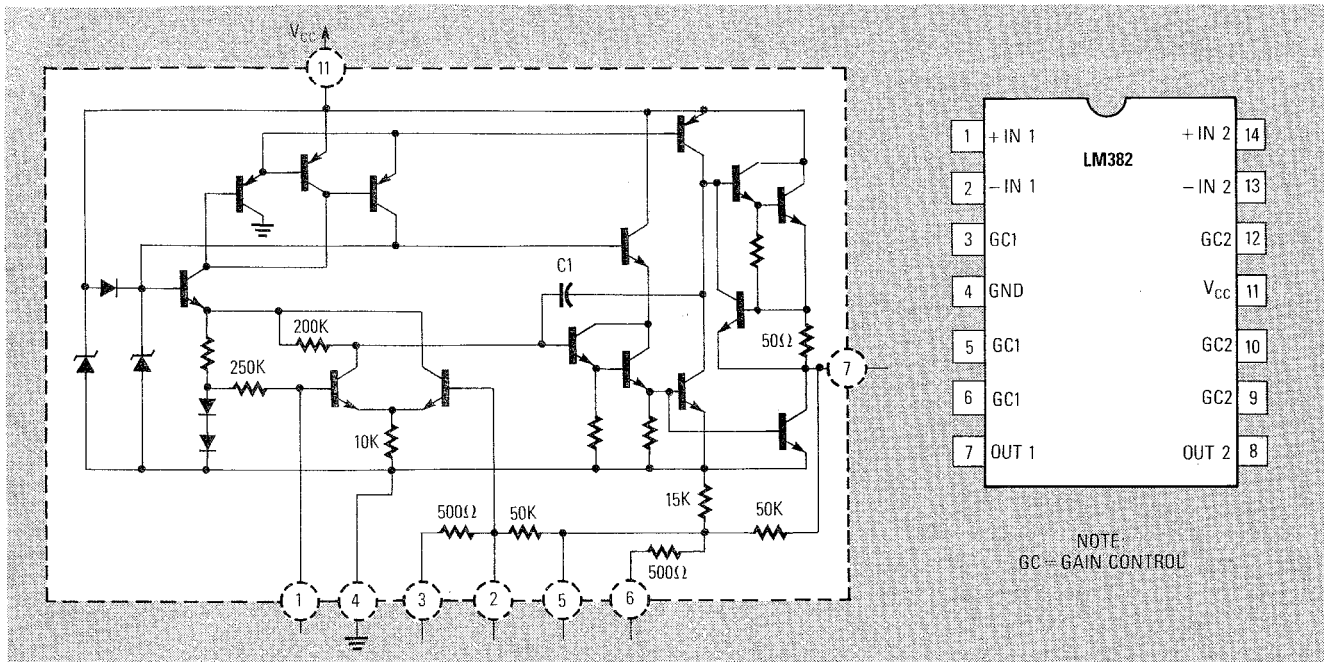

FIG. 3—THE LM382 DUAL LOW-NOISE PREAMP.
- The LM382, shown in Fig. 3, doesn't provide for external compensation or single-ended operation, but has a built-in resistor matrix to let the user select from among several closed-loop gain and frequency-response options.